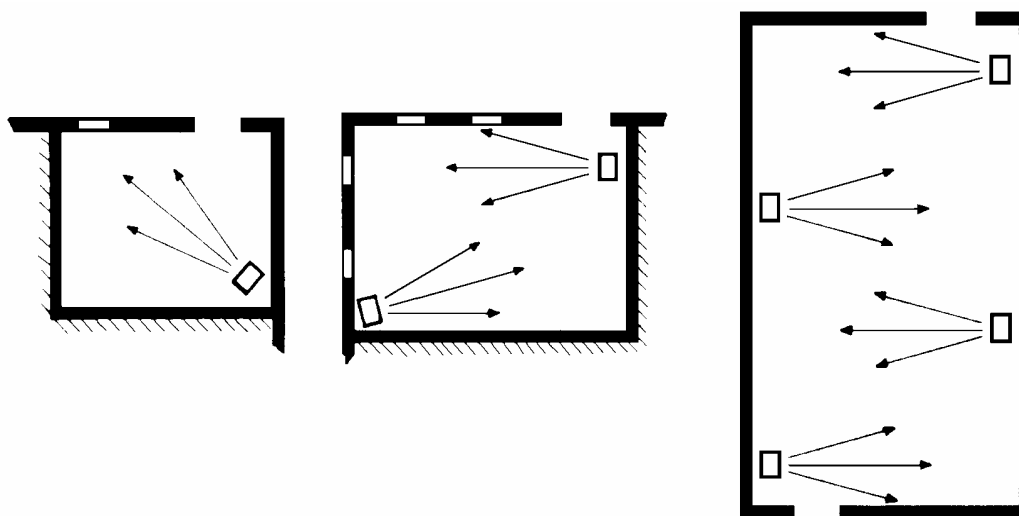

Figure 15 – Sample positioning of the units
- for better heat distribution in the case of multiple unit installation, create alternate flows of hot air (see Figure 15);